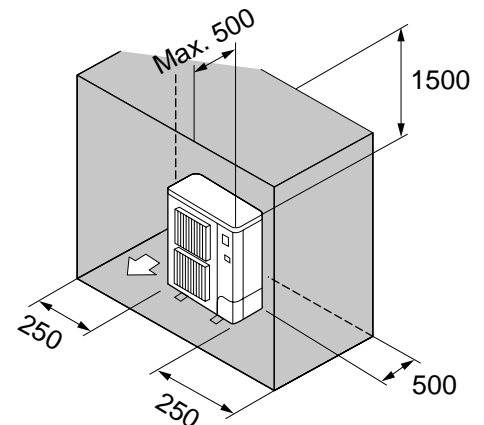

Fig. 2-9
- Obstacles at rear, sides, and above only (Fig. 2-9)